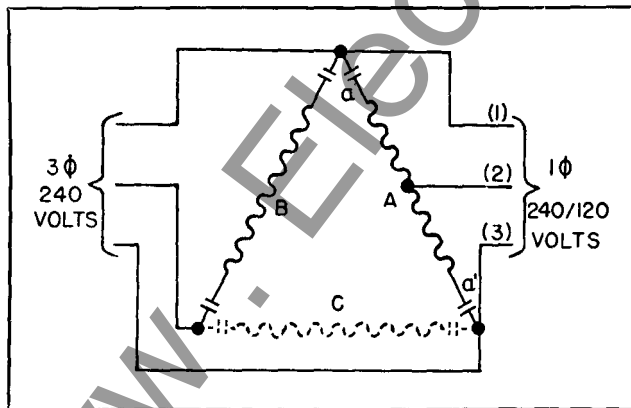

FIG. 10. Combined Single-Phase, 3-Wire Load and Three-Phase Load on "CSP" Transformer (Use Open Delta Connection Omitting Dotted Transformer).
for this is shown by Fig. 10. Should an overload cause circuit breaker a-a' in transformer A to trip, then line wires (1) and (3) would still be fed by transformers B and C. The neutral (2) would float in potential and voltages (1)-(2) and (2)-(3) would be determined only by load impedances. Transformer C, shown dotted, should therefore be omitted and transformers A and B used in open delta.